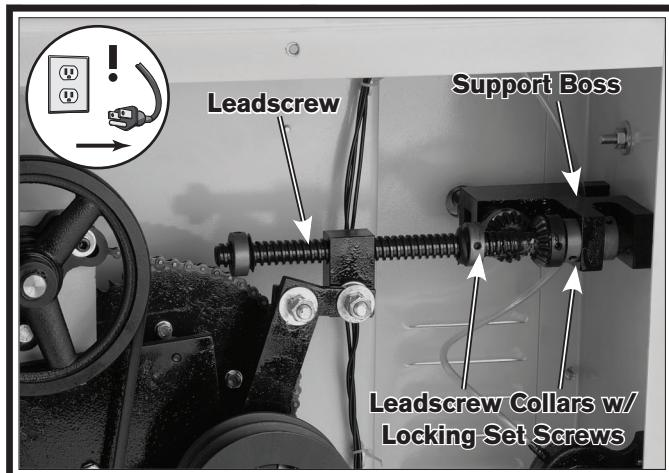

Figure 45. Leadscrew adjustment locations.
2. Remove the rear lower access panel, and use a 4mm hex wrench to loosen both collar locking set screws just enough to adjust the collars (**Figure 45**).
3. Slide the right-hand leadscrew collar against the support boss and tighten the set screws. If excess backlash still exists at the handwheel, you may have to readjust the pinion gear lash, replace the leadscrew half nut, or replace worn bolts or linkage (**Figure 45**).